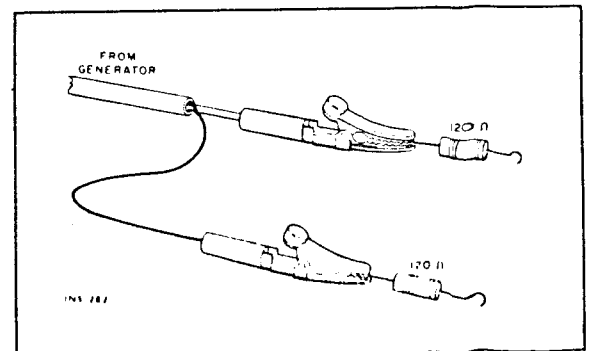
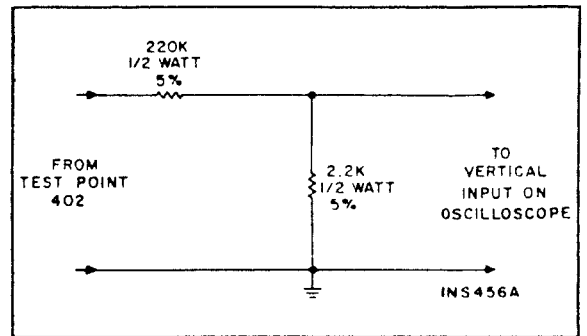

Figure 8. Connections To Provide 300-ohm Generator Output Impedance. Matching Resistors Reduce Generator Voltage By Half At Antenna Terminals.
Figure 11. Voltage Divider Probe.
(1) Set MANUAL TUNING dial pointer to zero (0) calibration mark on the logging scale. If the dial pointer is not centered on the (0) at the extreme end of knob rotation, reposition the pointer assembly on the dial cord and cement the pointer in place to prevent slippage. Allow cement to thoroughly dry. NOTE: Repositioning dial pointer may require realignment of AM RF board for correct AM station calibration.
(2) Connect an accurately calibrated DC VTVM to Test Point 701 (pin 7M on Muting board).
(3) Set dial pointer to 2.3 on logging scale. Adjust R4 MANUAL TUNING pot. (fine adjustment) for 5.63V indication on DC VTVM. Disconnect DC VTVM from Test Point 701 (pin 7M).
(4) Connect an FM generator to the FM ANTenna terminals. Use a 120-ohm composition resistor in series with each lead from the generator (see Figure 8).
(5) Connect a scope and an AC VTVM to either the LEFT or RIGHT RCDR OUT jack.
(6) Modulate FM generator with 400Hz, ± 75 kHz deviation. Set generator frequency to 90MHz. During alignment, adjust generator output as low as possible.
(7) Align (oscillator coil) L754 first, then (RF transformers) L753, and L752, and (antenna coil) L751 for maximum indication on AC VTVM and oscilloscope.
(8) Set generator frequency and dial pointer to 106MHz. Align (oscillator trimmer) C769 first, then (RF trimmers) C768, and C763, and (antenna trimmer) C754 for maximum indication on AC VTVM and oscilloscope.
(1) Connect an FM generator to the FM ANTenna terminals. Use a 120-ohm composition resistor in series with each lead from the generator (see Figure 8).
(2) Set MANUAL TUNING dial pointer to zero (0) calibration mark on logging scale. Set FM generator frequency to receiver frequency.
(3) Connect a scope and an AC VTVM to either the LEFT or RIGHT RCDR OUT jack.
(4) Modulate FM generator with 400 Hz, ± 75 kHz deviation.
(4) Connect scope vertical input to either LEFT or RIGHT RCDR OUT jack. Disconnect DC VTVM from pin 9P and reconnect to pin 9V. Connect a second DC VTVM to pin 9A (on AUTOSCAN board).
(5) Connect an FM generator to the FM ANTenna terminals. Use a 120-ohm composition resistor in series with each lead from the generator (see Figure 8). Modulate generator with 400 Hz, ± 75 kHz deviation. Set generator frequency to 88 MHz, and output level to 1,000 μ V.
(6) Press in right (upscale) AUTOSCAN TUNING pushbutton momentarily (release immediately after pushing in). AUTOSCAN circuit should tune receiver to FM generator signal and sine wave should appear on scope.
(7) Carefully adjust HOLD CONTROL pot. R916 (on AUTOSCAN board) for maximum reading on second DC VTVM (+3.5V to 4.5V on pin 9A). Note that first DC VTVM should indicate 0 volt on pin 9V when second DC VTVM indicates maximum voltage on pin 9A. Signal trace on scope should be clean sine wave.
(8) Reduce FM signal generator output level to 15 μ V. Sine wave on scope should remain locked in.
(9) Press in left (downscale) AUTOSCAN TUNING pushbutton momentarily, to make signal disappear. Press in right (upscale) pushbutton momentarily. AUTOSCAN circuit should retune receiver to FM generator signal and sine wave should reappear on scope.
(10) Set FM signal generator frequency to 108 MHz, and output level to 1,000 μ V. Press in right (upscale) pushbutton until AUTOSCAN circuit tunes to generator frequency. Repeat steps (8) and (9).
(1) Connect RF output of multiplex generator to the FM ANTenna terminals. Use a 120-ohm composition resistor in series with each lead from the RF output (see Figure 8). Set MPX generator for external modulation with 19 kHz pilot carrier, ± 7.5 kHz deviation (10% pilot, no audio). Tune receiver to RF frequency of MPX generator.
(2) Connect DC VTVM to Test Point 403 (pin 4G on AM/FM IF, MPX board).
(3) Adjust cores of Z401 and Z402 (on AM/FM IF, MPX board) for maximum reading on DC VTVM.
(4) Connect output of audio generator, set for 1 kHz, to the external modulation input of MPX generator and to external sync input of an oscilloscope. Adjust audio generator level for composite signal ± 75 kHz deviation (10% pilot, 90% audio).
(5) Connect AC VTVM to LEFT RCDR OUT jack. Connect scope through voltage divider probe (see Figure 11) to Test Point 402 (4K on AM/FM IF, MPX board).